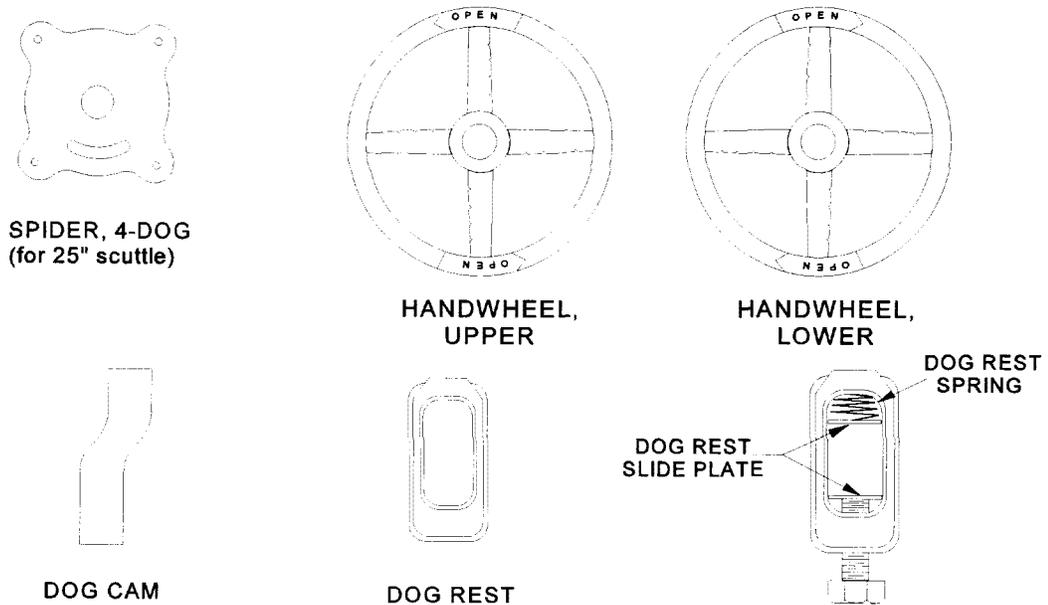

Figure 5-2. Scuttle Components
- b. Remove the cotter pin and clevis pin attaching each dog arm to the spider. Remove the dog arms from the assembly. See figure 5-1 and figure 5-2.
- m. Examine the dog cam welded to the scuttle underside. See figure 5-1 and figure 5-2. Dog cams can become bent or break away completely over time from operation of the handwheels. If a cam requires replacing, it is important to position the new cam exactly in the same position as the old cam. Carefully mark the position of the old cam to indicate the proper fit-up of the new dog cam to the slot in the spider. If the old cam is missing, the old weld left on the scuttle will give a good idea of the proper position for the cam. Ensure the correct end of the cam is welded to the spider. The longer of the two sections of the cam is the end that should be welded. See figure 5-5 and .
- b. Remove the cotter pin and clevis pin that attach each dog arm to the spider. Remove the dog arms from the assembly. See figure 5-1 and figure 5-2.
- m. Examine the dog cam welded to the scuttle underside. See figure 5-1 and figure 5-2. Dog cams can become bent or break away completely over time from operation of the handwheels. If a cam requires replacing, it is important to position the new cam in exactly the same position as the old cam. Carefully mark the position of the old cam to indicate the proper fit-up of the new dog cam to the slot in the spider. If the old cam is missing, the old weld left on the scuttle will give a good idea of the proper position for the cam. Ensure the correct end of the cam is welded to the spider. The longer of the two sections of the cam is the end that should be welded. See figure 5-5.
Be sure to install the upper handwheel. Ensure the arrow cast into the handwheel points in the direction the handwheel is turned to open the scuttle. On the lower handwheel, the arrow points in the opposite direction. Do not mix the directions up. See figure 5-2. Handwheels for 18- and 21-inch scuttles are 10 inches in diameter; handwheels for 25-inch scuttles are 13 inches in diameter.